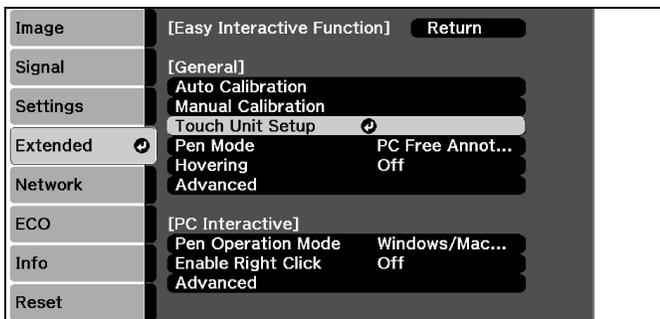

Figure 18
4. Select **TOUCH UNIT SETUP**. (See Figure 18)